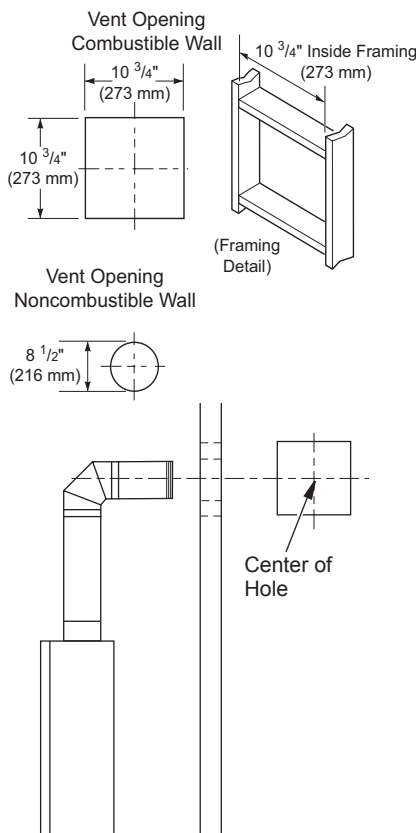
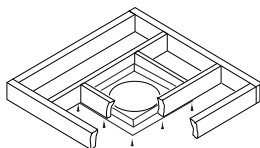

Figure 12 - Vent Opening Requirements
Figure 27 - Installing Firestop
5. Carefully determine the location where the vent pipe assembly will penetrate the outside wall. The center of the hole should line up with the center-line of the horizontal vent pipe. Mark the wall for a 10 3/4" x 10 3/4" square hole. Cut and frame the square hole in the exterior wall where the vent will be terminated. If the wall being penetrated is constructed of noncombustible material, such as masonry block or concrete, a 8 1/2" hole with zero clearance is acceptable (see Figure 12).
1. Cut a 10 $\frac{3}{4}$ " square hole in the ceiling using the locating hole as a center point. The opening should be framed to 10 $\frac{3}{4}$ " x 10 $\frac{3}{4}$ " (273 mm x 273 mm) inside dimensions, as shown in Figure 12 on page 11 using framing lumber the same size as the ceiling joists. If the area above the ceiling is an insulated ceiling or a room, nail firestop from the top side. This prevents loose insulation from falling into the required clearance space. Otherwise, install firestop below the framed hole. The firestop should be installed with no less than three nails per side (see Figure 27).
3. Cut a hole in the roof using the locating hole as a center point. (Cover any exposed open vent pipes before cutting hole in roof.) The 10 $\frac{3}{4}$ " x 10 $\frac{3}{4}$ " hole must be measured on the horizontal; actual length may be larger depending on the pitch of the roof. There must be a 1" clearance from the vent pipe to combustible materials. Frame the opening as shown in Figure 12, page 11.